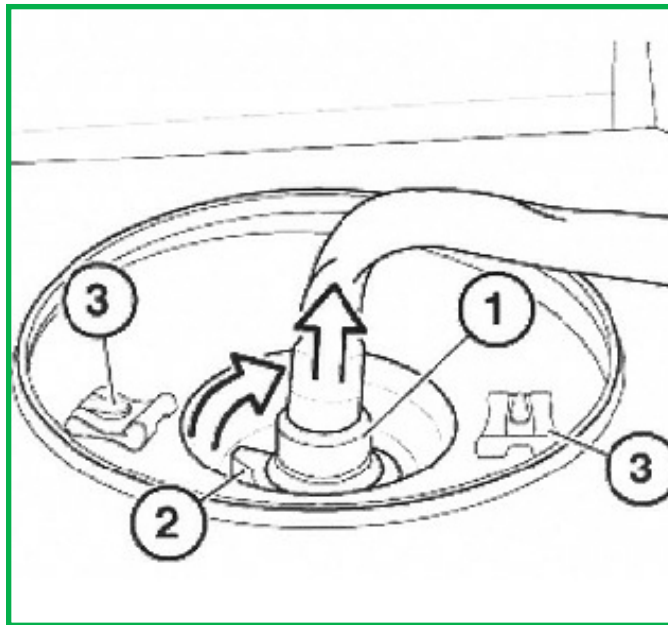

FIGURE 19
6. Disconnect the top of the air spring by pressing the quick coupling (1) downwards, pressing the retaining ring (2) together, and detaching the air line. Remove the retaining clips (3). (Figure 19)